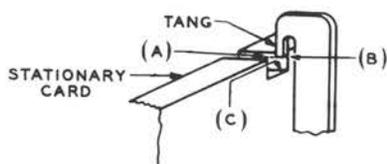

Fig. 28—Spring Tang Position—Clutch Drive
- (a) The end of the spring tang [Fig. 28, (A)] shall be below the top surface of the stationary card by
- (b) The full width of the spring tang [Fig. 28, (B)] shall engage the notch of the stationary card. Gauge by eye.
- (c) The spring tang (Fig. 28, (C)) shall not rub on the stationary card when moved in the